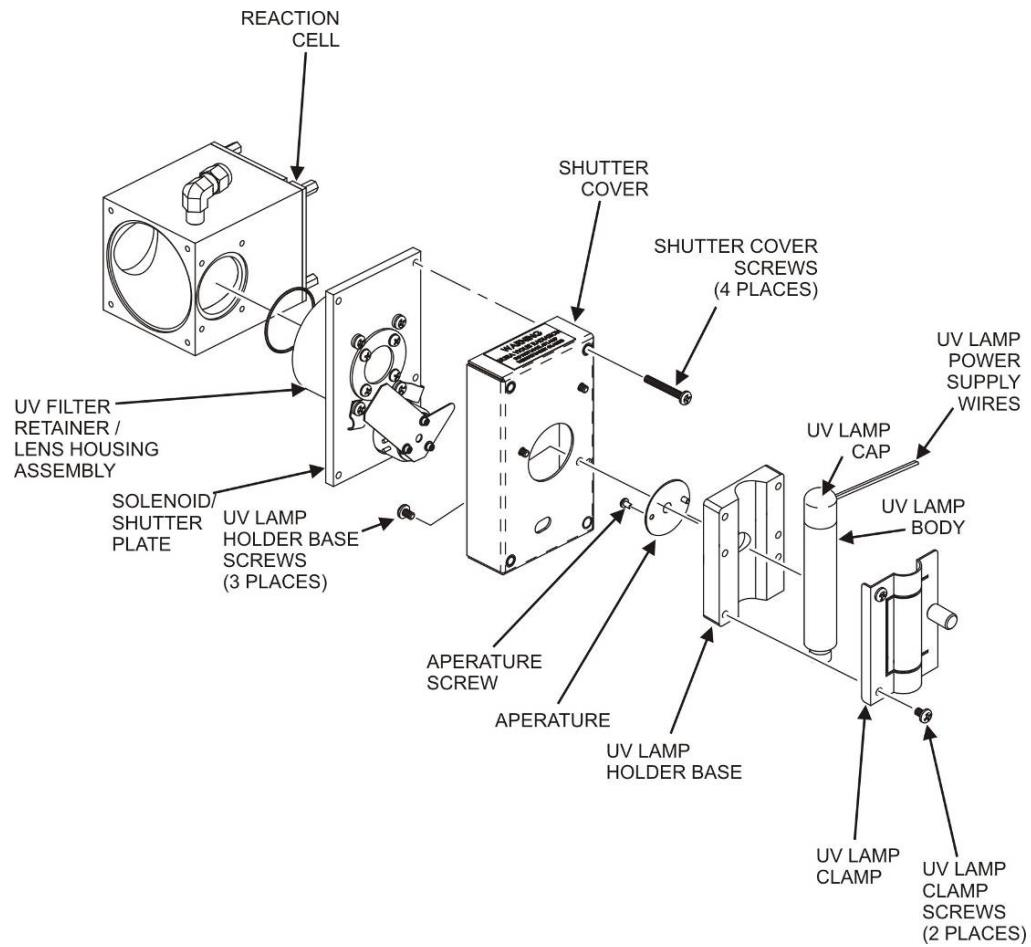
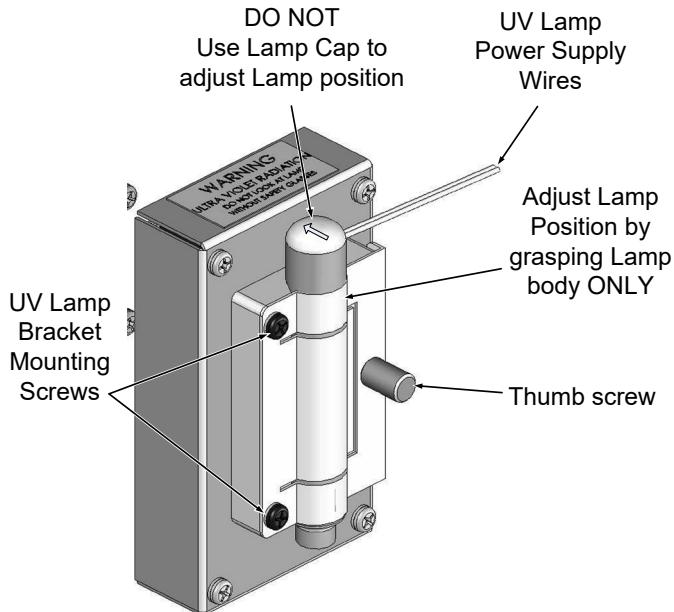

Figure 6-25. Shutter Assembly
Figure 6-26. UV Lamp Adjustment
2. Slightly loosen the large brass thumbscrew located on the shutter housing (refer to Figure 6-26) so that the lamp can be moved.
DO NOT grasp the UV lamp by its cap when changing its position - always grasp the main body of the lamp (refer to Figure 6-25). Inattention to this detail could twist and potentially disconnect the lamp's power supply wires.
4. Loosen, but do not remove the two UV lamp bracket screws and the large brass thumbscrew located (refer to Figure 6-25 and Figure 6-26) on the shutter housing so that the lamp can be moved.
- always grasp the main body of the lamp (refer to Figure 6-25)